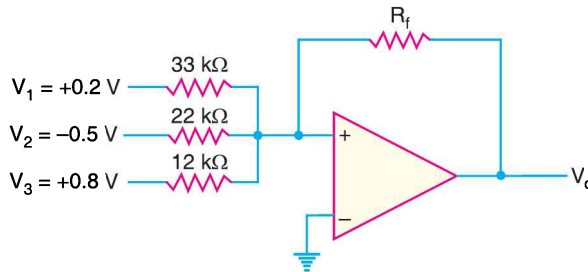

Fig. 25.106
13. Calculate the output voltage of the circuit in Fig. 25.106 for $R_f = 68 \text{ k}\Omega$. [$V_o = -3.39 \text{ V}$]